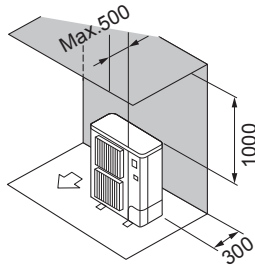

Fig. 5-4
- ② Obstacles at rear and above only (Fig. 5-4)